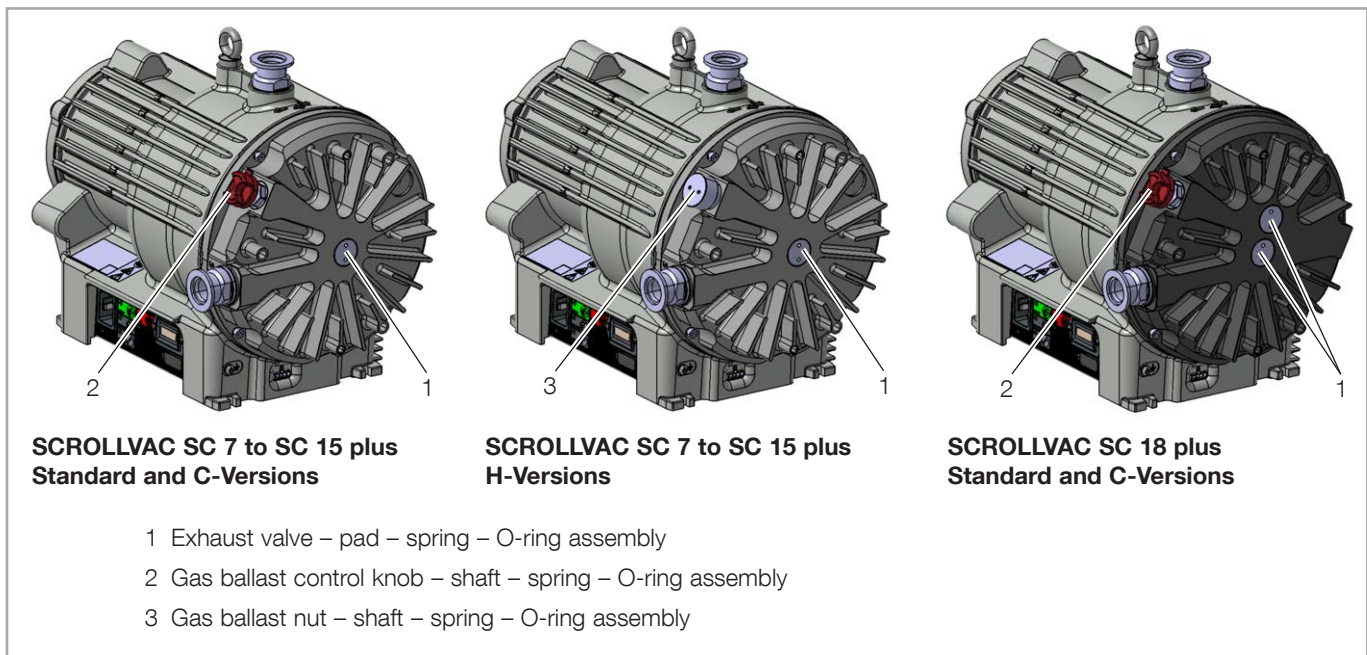
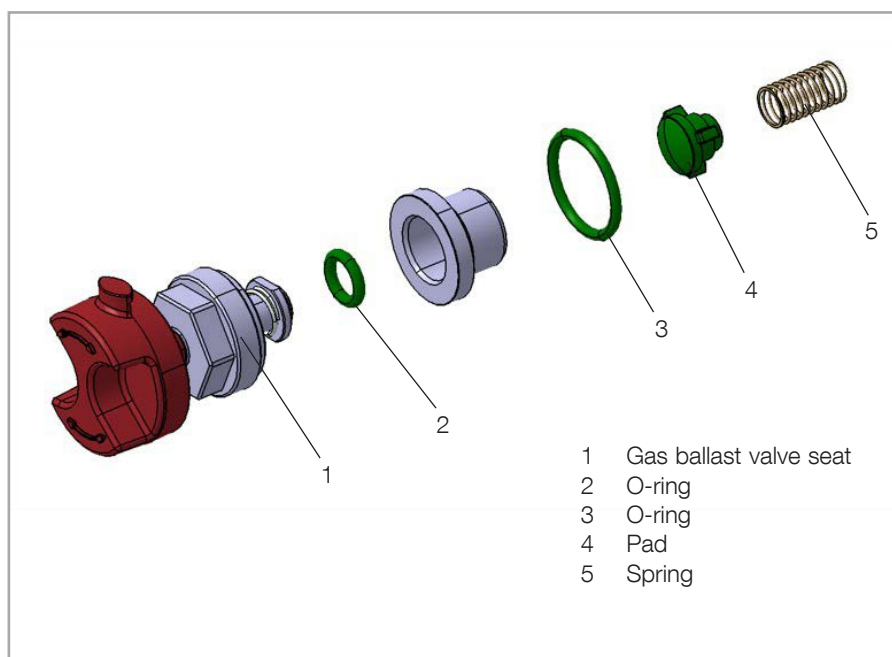

Figure 8 - Remove the valve assemblies
Figure 10 – Gas ballast knob and valve assembly
1. Using an adjustable pin spanner remove the exhaust valve – pad – spring - O-ring assembly (Figure 8, item 1)
5. Using a 22 mm AF spanner (Figure 8, item 2) or adjustable pin spanner (figure 8, item 3) remove the control knob - gas ballast nut – shaft – spring - O-ring assembly (figure 10).
6. Remove the gas ballast valve seat (figure 10, items 1) from spring, valve pad and O-rings (figure 10, items 2, 3, 4 and 5).
7. Dispose of all used items that have been removed following this operation: spring, pad and O-rings (figure 10, items 2, 3, 4 and 5) and replace with new items.
Note: Do not to damage or trap the O-ring (figure 10, item 2 and 3). Do not use any oil or lubricant during the assembly
10. Assemble knob and exhaust valve assembly to the side of the fixed scroll using a 22 mm AF spanner (Figure 8, item 2) or adjustable pin spanner (figure 8, item 3). Torque each screw to 6 Nm. If no torque tool is available closest to the exact torque is acceptable.